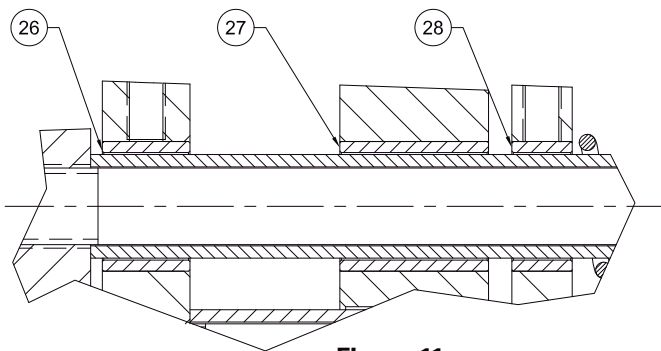

Figure 11
- 4.7.6 Inspect the floating plate bushings (26), pressure plate bushings (27), and spring housing bushings (28). See Figure 11. Refer to wear limits shown in Table 6 to determine if the bushings require replacement. If any of the bushings are at or beyond the wear limits, all of the bushings must be replaced.
- 4.7.13 Chill bushings (26, 27, 28) in dry ice or a freezer until the bushings can be fitted and assembled into their respective holes. Carefully insert the bushings into their respective holes, ensuring that the bushings are assembled evenly with the face of the component. See figure 11.